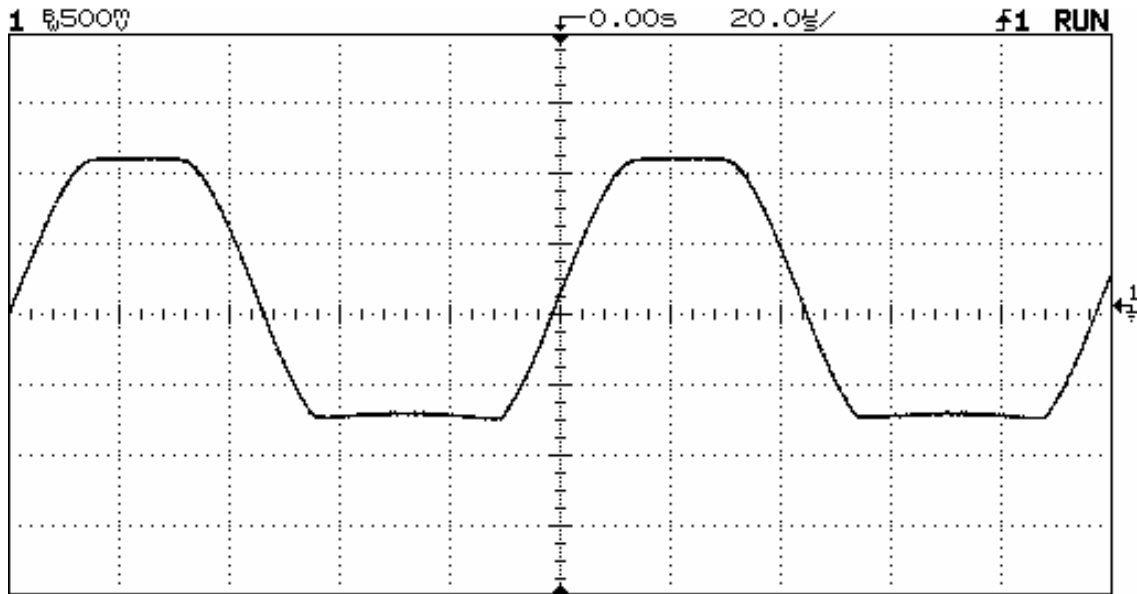
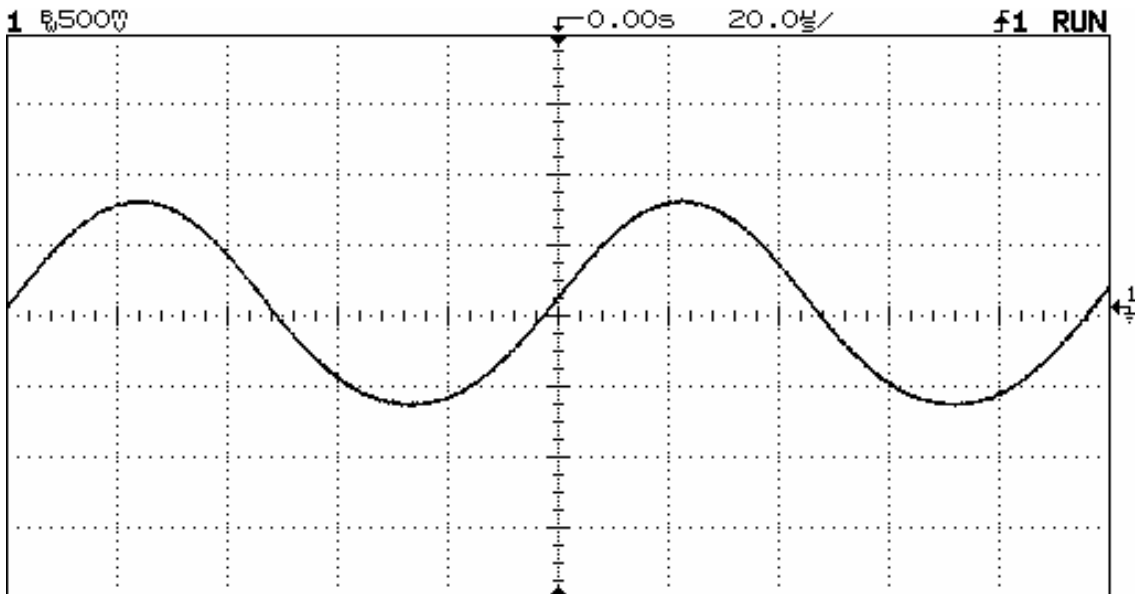

Figure 3: Clipped waveform at 1mA calibration on current probe amplifier
Figure 4: Improved waveform with 2mA setting on current probe amplifier
- 2) Connect the current probe amplifier to the vertical input of an oscilloscope. DC-couple the oscilloscope input and set the deflection factor first to lowest calibration i.e. 1mA. After the whole setup, if you find that waveform on the oscilloscope is clipped (see Figure 3) then increase the deflection factor the next higher calibration to improve the waveform (Figure 4).